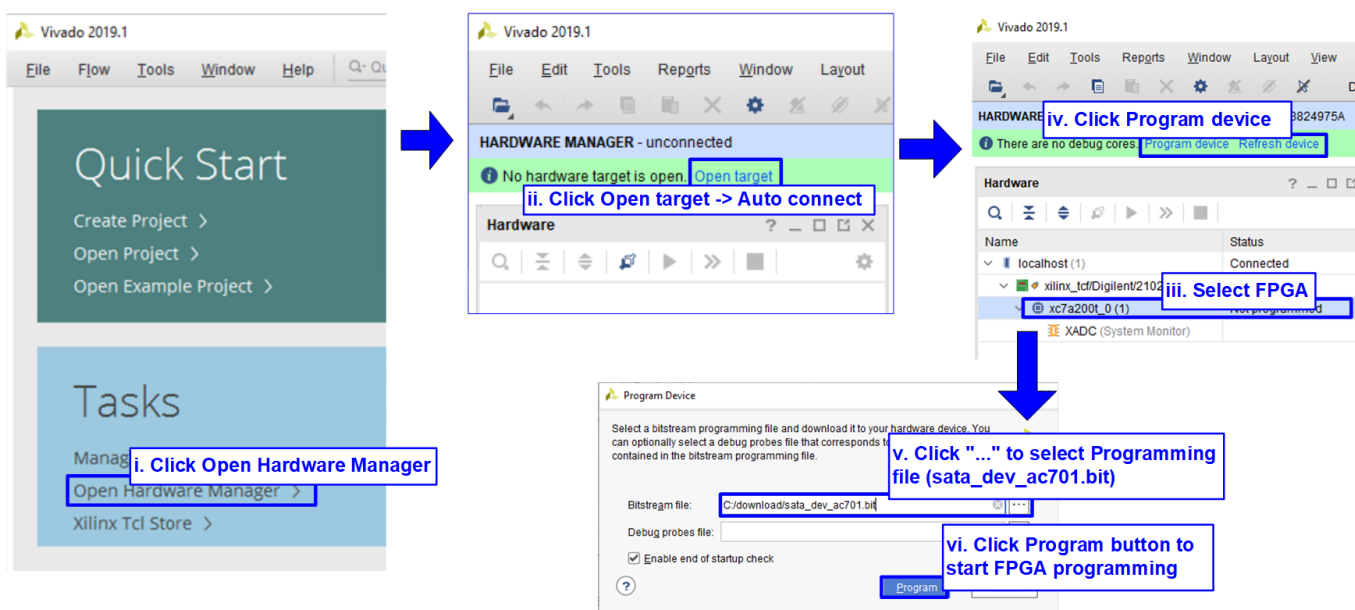

Figure 2-5 Programming configuration file
9. Download and program configuration file and firmware to AC701 by using Vivado tool, as shown in Figure 2-5.